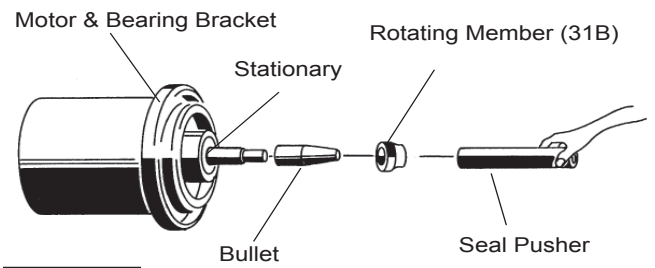
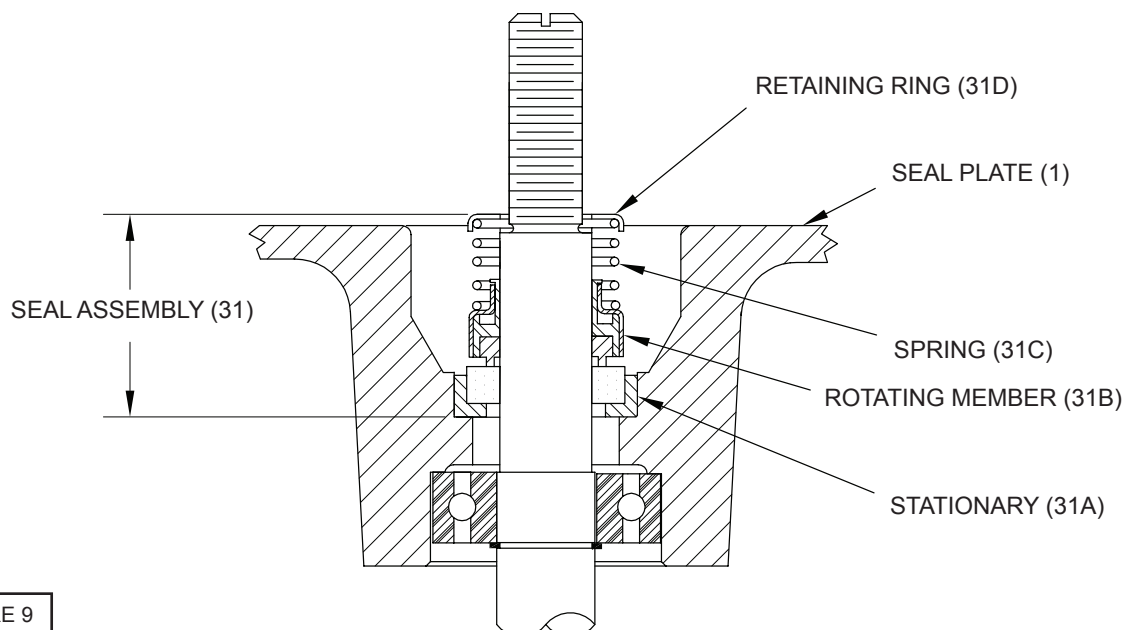

FIGURE 8
FIGURE 9
To expose shaft seal (31) for examination disassemble volute and impeller as outlined in paragraph F-2.1. If further repair is required remove retaining ring (31d), spring (31c) and rotating member (31b) from shaft (see Figure 9). Examine all seal parts and especially contact faces. Inspect seal for signs of wear such as uneven wear pattern on stationary members, chips and scratches on either seal face.
Make sure the stationary member is in straight. Slide a bullet (see parts list-seal tool kit) over motor shaft. Lightly oil (DO NOT use grease) shaft, bullet and inner surface of bellows on rotating member (31b) (see Figure 8). With polished surface of rotating member (31b) facing inward toward stationary member (31a), slide rotating member (31b) over bullet and onto shaft, using seal pusher, until polished faces of (31a) and (31b) are together (see Figure 9).